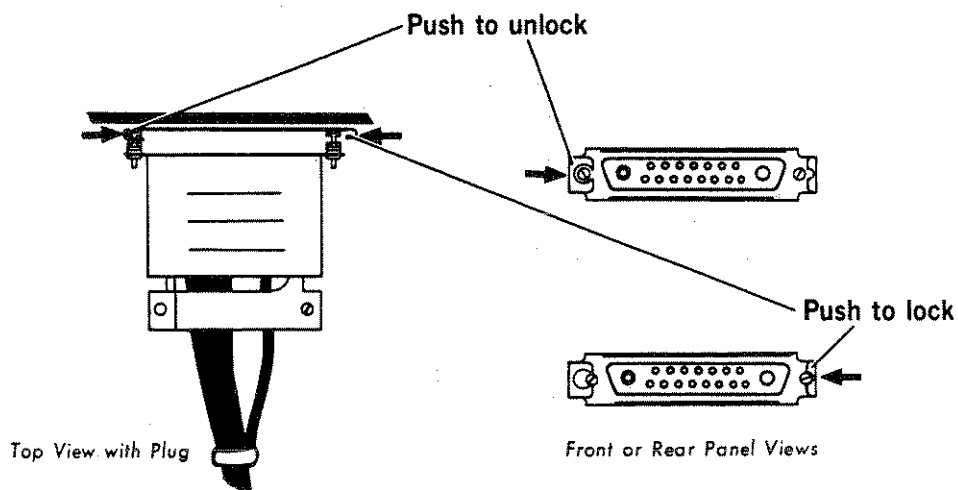

Figure 7-34. Test Connector Clip
- STEP 10. Secure the Test cable to the Test connector by sliding the clip to the left, as indicated in Figure 7-34.